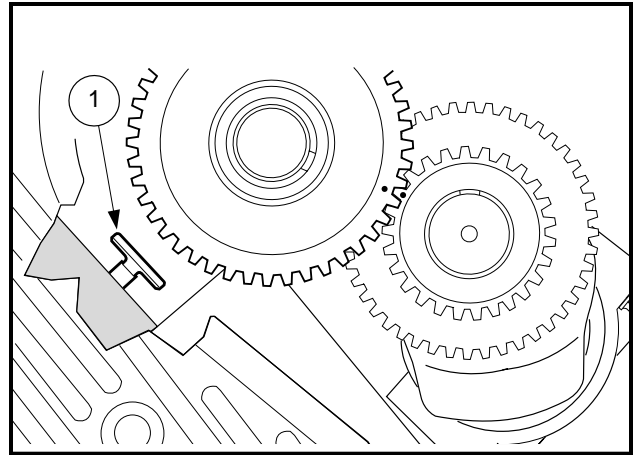

Figure 13-45 Timing Marks
1. Turn the engine upside down to keep tappets (1) from catching the cam lobes (**Figure 13-45, Page 13-23**).